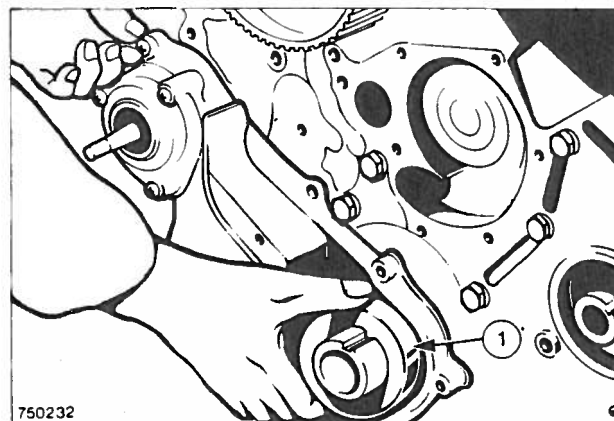

Fig. 35 Centralising the front cover oil seal
22. Fit a new seal to the front cover and position the cover to the block using Tool No. 21-025 to centralise the oil seal around the crankshaft (Fig. 35). Ensure that the seal runs on an unworn part of the spacer, or alternatively replace the spacer. Install the dowel bolt into the uppermost bolt hole, and finger tighten. Fit the remaining bolts and tighten to the specified torque (see Specifications).